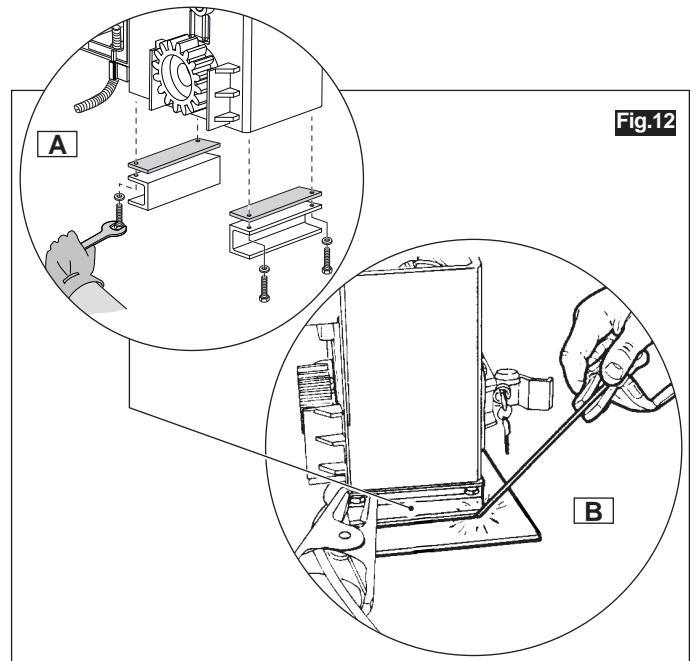

Fig.12
- Fit the two galvanized steel supports and the rubber vibration-proof strip under the base of the gearmotor with the appropriate screws supplied in the package (**Fig.12-part.A**). *To grease the screws suitably before to use them.*
- To pass the electric cables from the cableway (**Fig.12-Part.A**), taking care not to damage them.
- Fix the operator on the foundation plate by means of two welding seams along the assembled supports (**Fig.12-Part.B**). **IMPORTANT:** *it is advisable to make a preliminary weld with just two spots and then complete welding ONLY AFTER the rack has been fitted and CHECKED.*